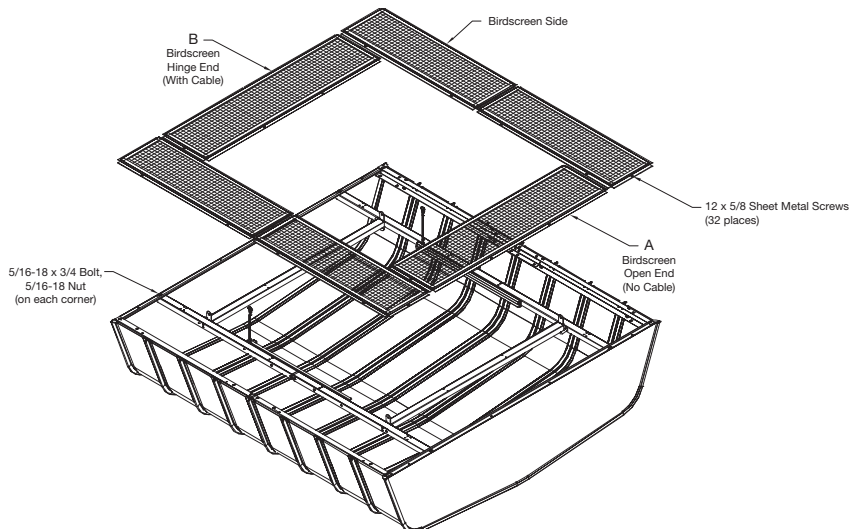

Figure 5 — 3FKE2 & 3FKE3 Attach Frame and Birdscreen
4. Refer to Figure 5. Attach the frame to the hood using (1) 5/16-18 x 3/4 bolt and (1) 5/16-18 nut on each corner.
5. Refer to Figure 5. Attach birdscreen in holes provided using (32) #12 x 5/8 sheet metal screws, (5) on each side screen and (6) on A & B ends.